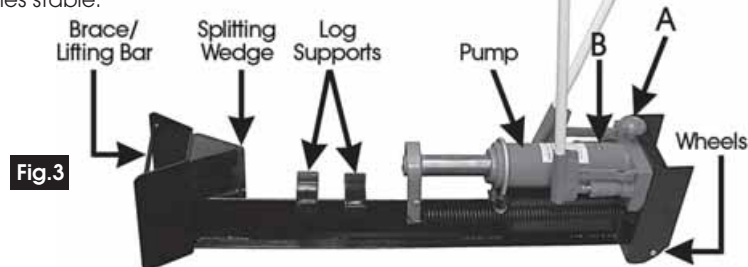

Fig.3
NOTE: The logsplitter may be lifted at the splitting wedge end, using the brace, shown in Fig.3, which will raise the pump end on to its wheels, allowing the unit to be transported to a suitable position.
2. Remove the oil filler plug - 'B' Fig.3.